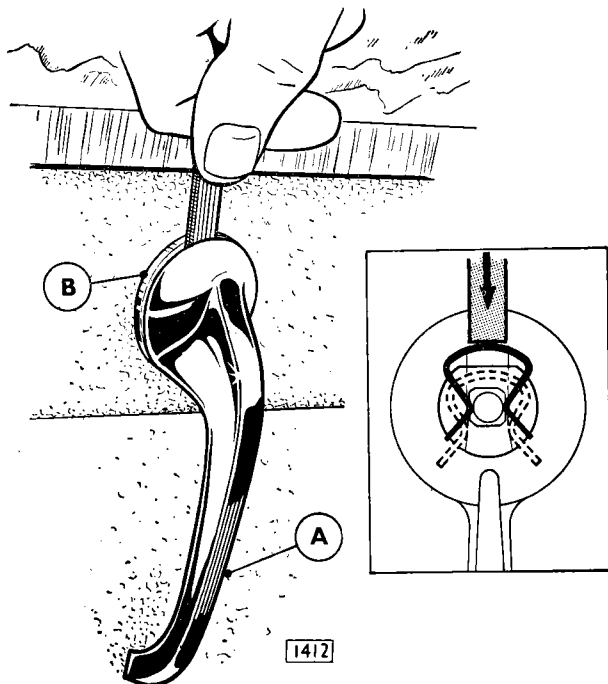

Fig. 28. An alternative method of removing the regulator handle
As an alternative method for releasing the spring clip insert a flat strip of steel about $\frac{1}{16}$ " (1.6 mm.) thick between the handle (A) and the inner ring (B) as illustrated in Fig. 28.